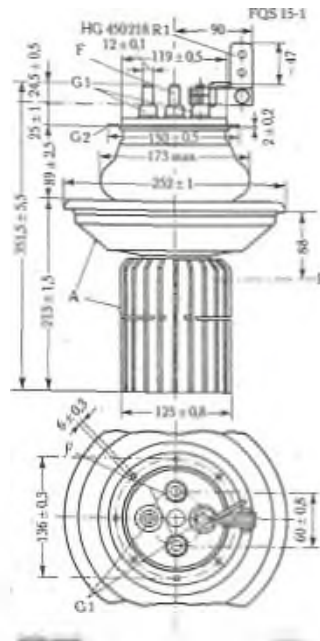

Fig. 2 (FQS 15-1)
The anode of the tube is fitted with a fin-radiator of special shape (Fig.2), allowing high specific loading of the anode. The tube has to be mounted with its anode down into its Boiler type SG 15a (Fig.3). As the pressure inside the cooling system does not rise materially above the atmospheric pressure, the tube is allowed to sit on the boiler by its own weight without any mechanical fastening. The condensed cooling water enters through the long bottom Pyrex tube (3a in Fig. 4) and dry-steam leaves the boiler above through the short Pyrex tube (3b) of greater diameter .
- 12 - Normal Water level held constant "P" (see Fig. 2), the tube must be covered with water up to the mark "P"